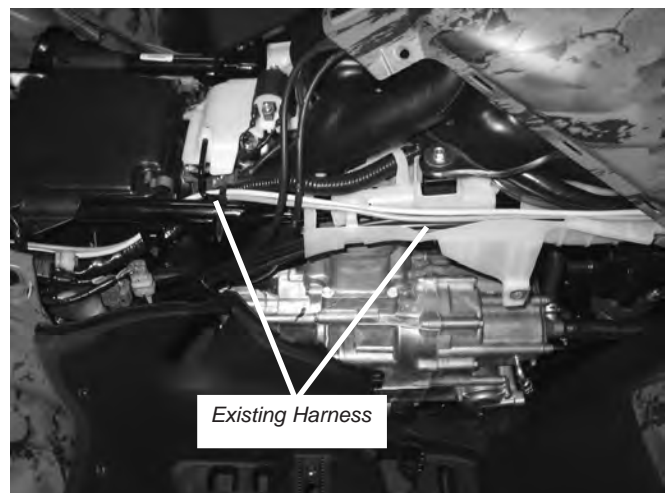
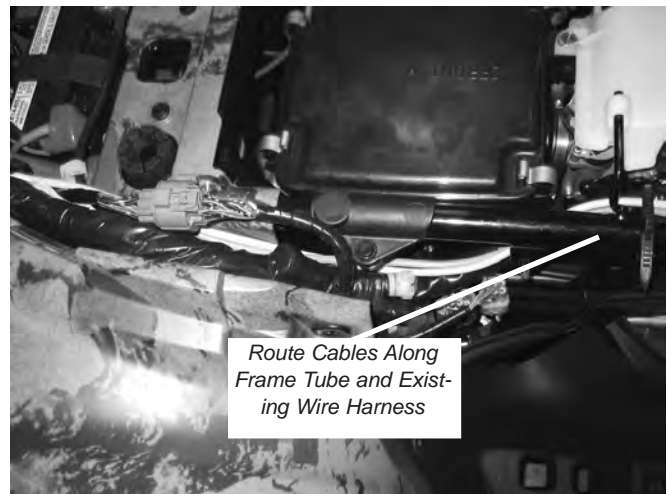
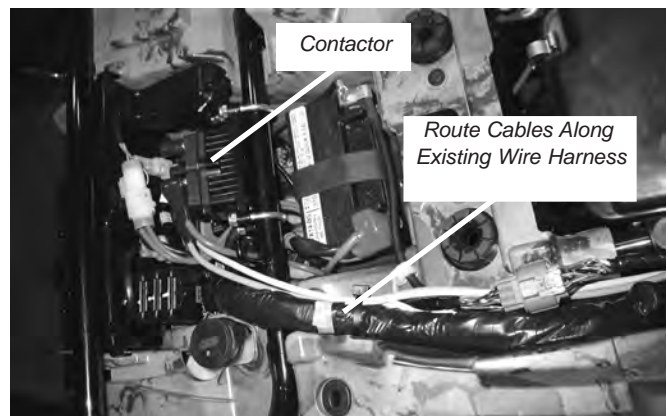

Figure 31 Switch Lead Routing
Figure 33 Routing Electrical Cables
Figure 34 Electrical Cables Routing at Contactor
- g. Route switch leads to the contactor at the rear of the ATV by following the original wiring harnesses along the right side of the frame, figure 31.
b. Route the winch wires (yellow and blue) from the left side of the ATV across to the right passing in front of the steering column and following the existing wiring harnesses. Complete the cable routing by following the switch lead path along the right side of the ATV to the contactor, figure 31, figure 33, and figure 34.